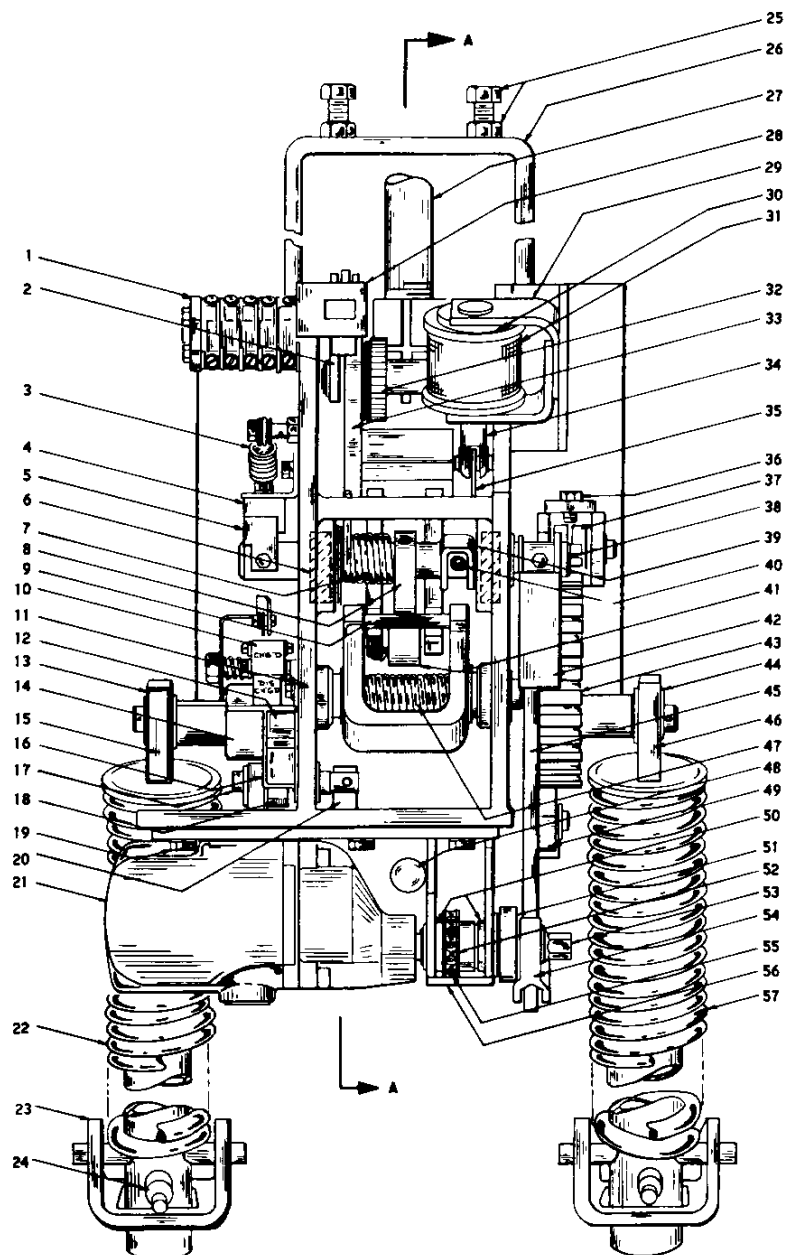

Figure 6 Front View Of Mechanism In Latch Closed Position
1. Remove the trip latch checking switch operating lever (5, figure 6).
4. Remove the trip crank adjustment bolt (40).
7. Reassemble the parts in the reverse order. Be sure the trip latch spring (7, figure 6) is properly installed and the trip latch (8) is aligned in the center of the trip latch roller (41). Check the trip latch adjustment as described under ADJUSTMENTS.
To replace the potential trip coil (31, figure 6), proceed as follows:
1. Block the closing springs (22 and 57, figure 6) as described under INSTALLATION.
2. Remove the left-hand closing spring (22) as described in CLOSING SPRINGS.